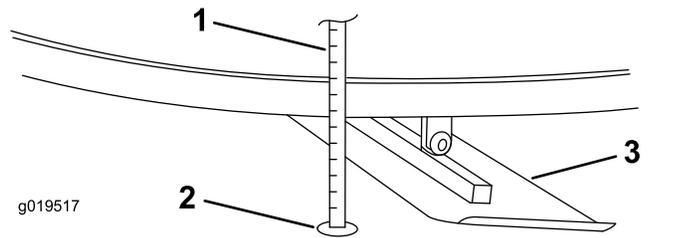

Figure 32
6. Measure the second blade from the spot previously marked on the floor to the second blade's leading edge (Figure 32).